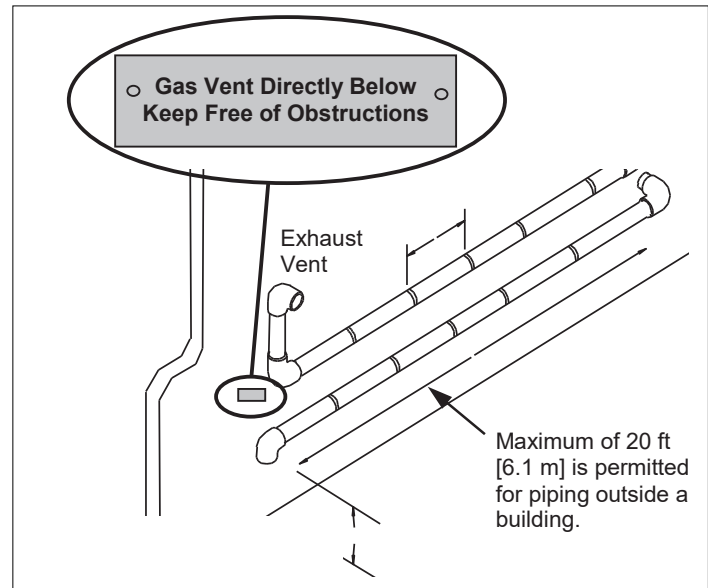

**Figure 22 - Venting Below Grade**
1. Excavate the site to a point where the pipes are to exit as shown in Figure 22.